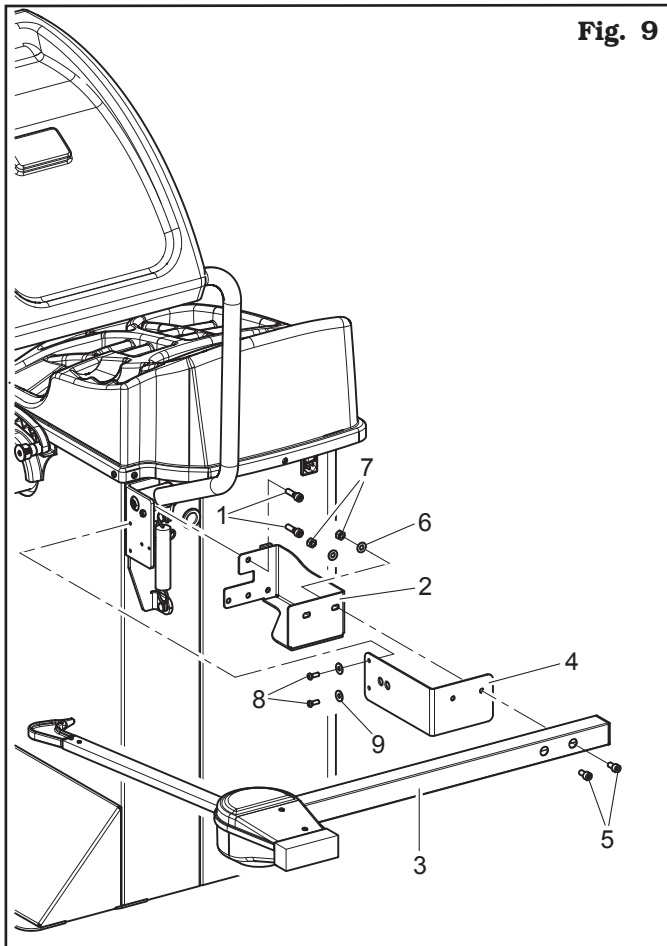
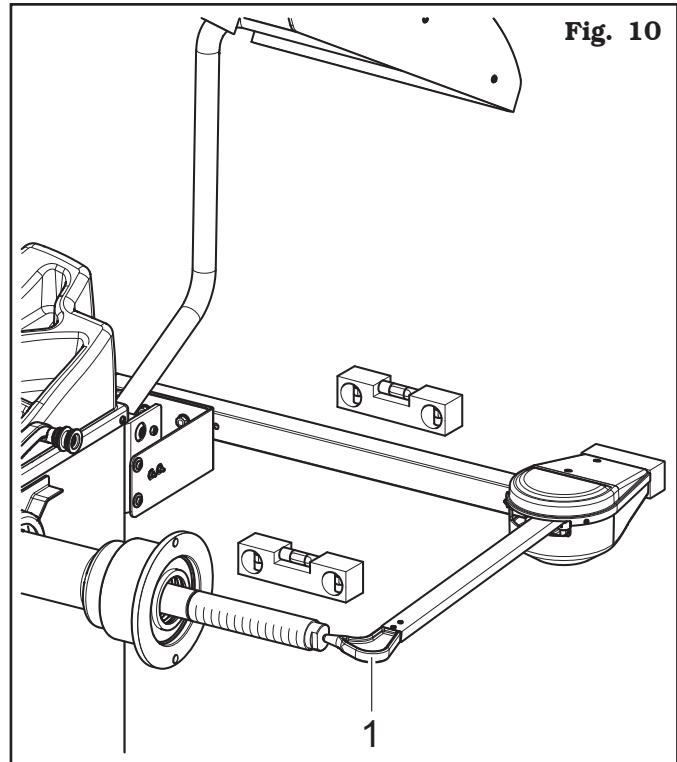

Fig. 9
Fig. 10
2. Introduce the 2 screws (**Fig. 9 ref. 1**) to the gauge bracket (**Fig. 9 ref. 2**) and screw them on the special threaded rivets placed on the rear side of the frame. Fasten the bracket (**Fig. 9 ref. 4**) to the protection guard support with the washers (**Fig. 9 ref. 9**) and the 2 screws (**Fig. 9 ref. 8**). Lock the gauge arm (**Fig. 9 ref. 3**) to the brackets (**Fig. 9 ref. 2-4**) using the 2 screws (**Fig. 9 ref. 5**), the washers (**Fig. 9 ref. 6**) and the nuts (**Fig. 9 ref. 7**), so that the shaft and the gauge arm are levelled (see **Fig. 10**).
3. Complete the assembly making sure the gauge tip (**Fig. 10 ref. 1**) is positioned in the middle of the mandrel.